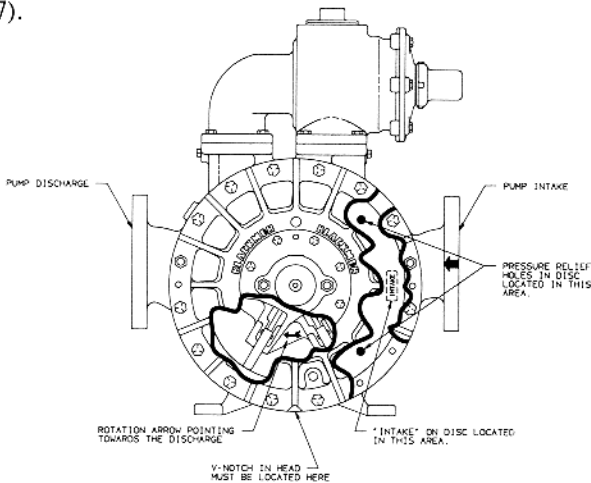

Figure 7
Before attaching the disc to the head, check again to make sure both surfaces are clean and smooth. Gently file away any protruding burrs or rough spots. Place the disc, with the counter-sunk screw holes facing up, on the head. The disc should be positioned such that **when the head is mounted**, the word “INTAKE” on the disc will be towards the intake side of the pump, and the two disc holes on either side of the word “INTAKE” will be in the 2 and 4 o’clock positions when the inlet is on the right. The head drain hole and V-notch should face the bottom of the pump when the head is installed (see Figure 7).
**NOTE:** When installing the rotor and shaft, the rotation arrow on the rotor must point towards the discharge side of the pump when the arrow is positioned below the shaft. (Refer back to Figure 7.)